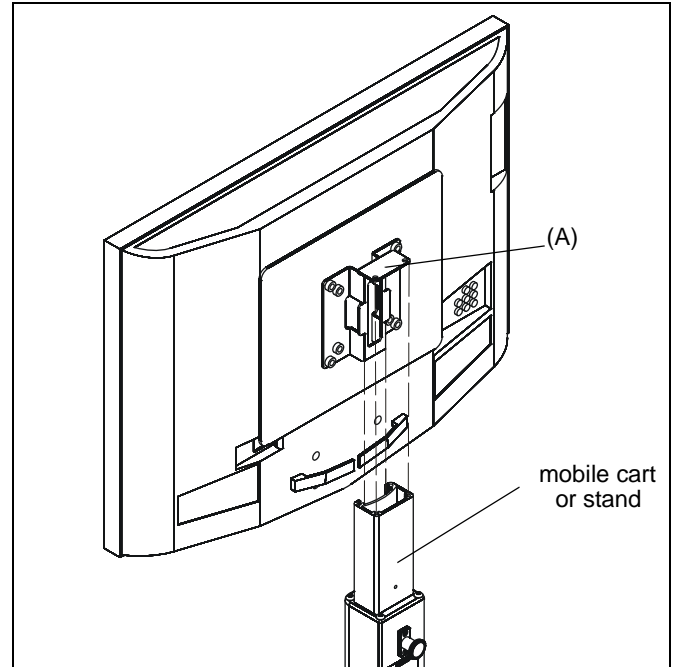

Figure 2
2. Use provided M6 hex key (D) to tighten screws.
5. Insert adapter bracket (A) into corresponding grooves in mobile cart or stand. (See Figure 2)